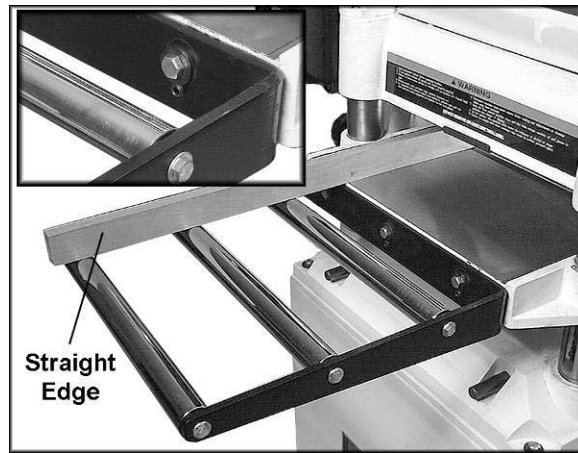

Figure 7
1. Mount an extension table to the edge of the main table with three M8 x 25 hex cap screws and washers (Figure 7) using a 12mm wrench. Do not fully tighten yet.